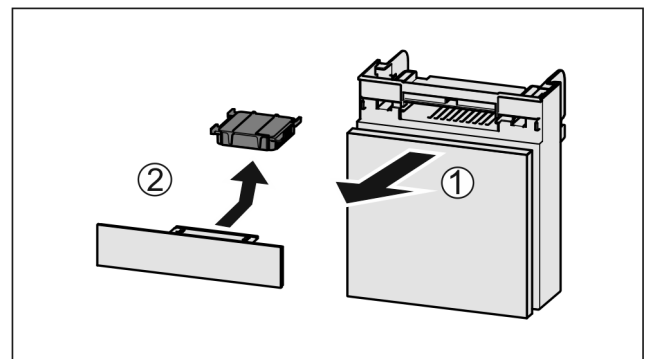

Fig. 157
- ▶ Pull out the compartment Fig. 157 (1).
- ▶ Remove the carbon filter Fig. 157 (2).